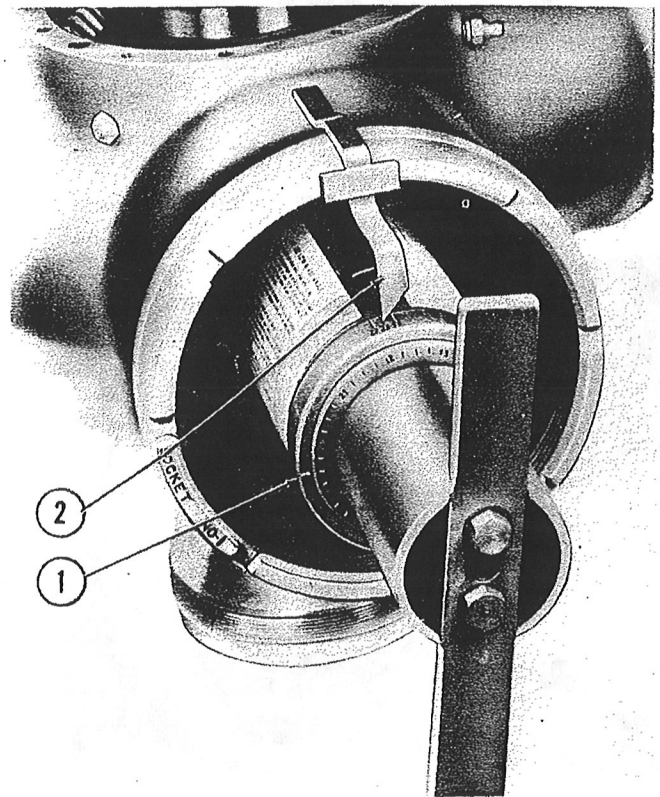

Figure 120—Indexing Piston and Cylinder
3. Place the indicator tool over the hub. Turn the cylinder and piston so that the pointer of the indicator aligns approximately with the specified low blade angle. Angles 20°, 25°, and 30° are marked on the cylinder. (See figure 120.)